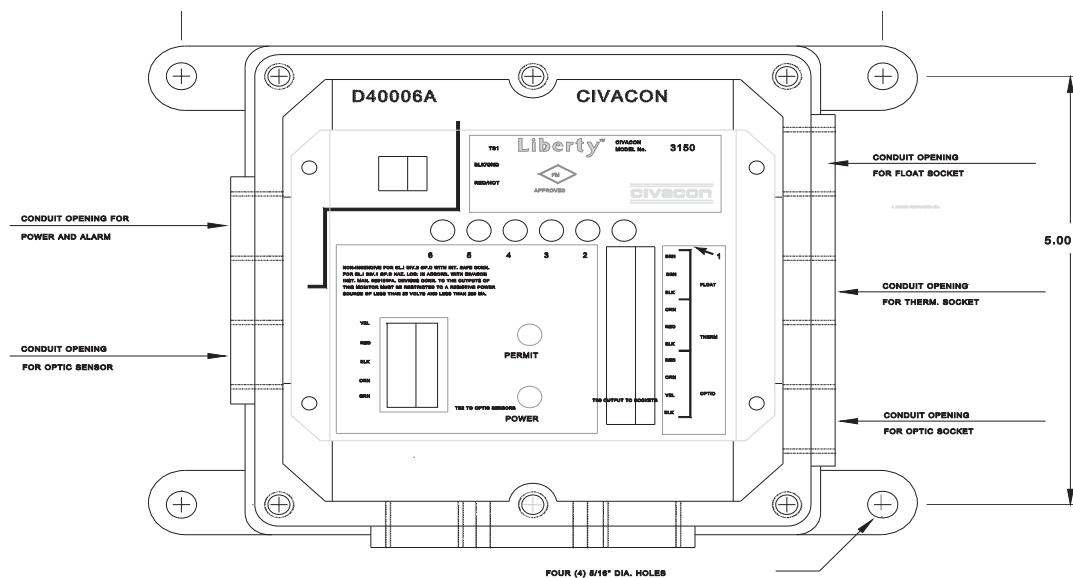
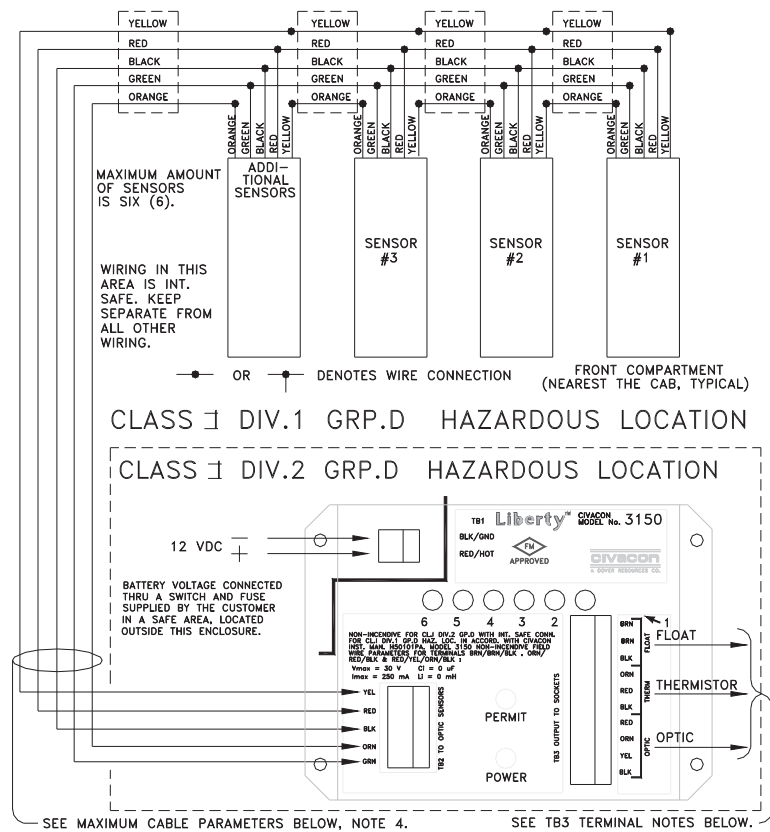
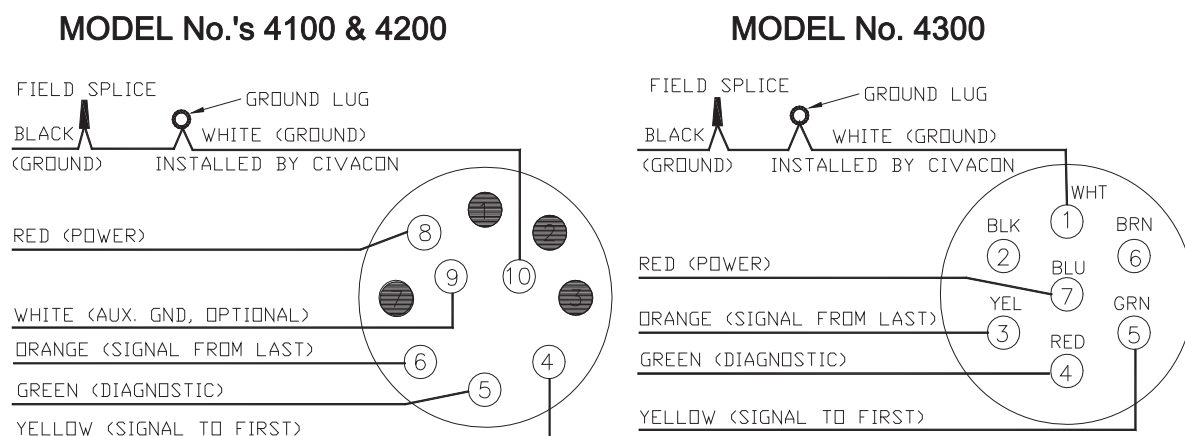

FIGURE 1 – MONITOR MOUNTING
FIGURE 2 - POWER AND SENSOR WIRING
FIGURE 3
The CIVACON Onboard Monitor has four (4) flanges with holes, at the base of its cast aluminum housing, used for mounting the enclosure. These are provided so that it may be securely bolted to a grounded metal portion of the trailer that will provide an excellent physical support to the monitor. These holes are 5/16 inch diameter. Refer to Figure 1 for dimensional mounting information. Mounting dimensions are given in inches.
To protect the electronics in the housing, keep the monitor lid on the enclosure until you are ready to wire the monitor. The housing provides seven (7) 1/2" NPT conduit holes (refer to Figure 1). These holes provide for easy wiring access to the desired locations of the monitor. The three (3) holes on the right side of the monitor are used for wiring to the sockets. The two (2) located on the left side of the monitor are used for wiring the 12 volt power and an optic sensor signal format to the monitor. The holes along the bottom are not used. Any holes that are not used should be properly sealed with pipe plugs, provided with the enclosure. Once the housing is installed, you are ready to remove the cover frame and window, and begin the wiring procedure.
All wiring entering the monitor must enter through the conduit openings shown in Figure 1. Use weathertight strain reliefs or conduit fittings to keep out external moisture. We strongly suggest the use of a high quality stranded and tinned copper wire with a minimum thickness of 20 gage for all electrical connections to the monitor. Trim about 3/8" of the insulation off the end of each wire that will be connected to the terminal strips of the monitor. Insert the trimmed wire into its appropriate slot on the terminal strip and tighten the screw on top of that slot. Due to the vibrations that can occur on a trailer, it is extremely important to double check all wiring connections for good mechanical integrity. The proper color code of the wires will save time and money on the installation and on any troubleshooting which may be required in the future. CIVACON Model 2100 cable (Ident code 97750) is a five (5) conductor color coded cable which is highly recommended for use with the installation of CIVACON overfill prevention equipment.
Do not apply power to the monitor without reading this manual and thoroughly checking all connections. Measure the trailer system voltage. The monitor is designed to operate from 11 to 16 Volts DC, negative ground systems, supplied by a battery. If your voltage measurement is not within this range, contact CIVACON before installing the monitor. Power from battery chargers or other pulsed power supplies may permanently damage the monitor. If the power wires pass through a Class I, Division 2, Group D area, the conduit and wire type must be suitable for this use. The power supply circuit should contain a switch and an inline fuse with a maximum current rating of 1/4 Amp. It is recommended that the power be switched off when not in use (i.e. when servicing the electrical system or when driving the vehicle). The wires from the power source should only enter the enclosure via the proper conduit opening, the upper left hand opening (refer to Figure 1).
The sensors must be wired according to Figure 2. The wires from the sensors should enter the enclosure via the proper conduit opening (refer to Figure 1). Any 5 wire sensor, which follows the five wire "OPTIC" signal format, may be used. CIVACON Instruction Sheet H50280PA may also be used as a reference in wiring the sensors. See Figure 2 for a complete sensor wiring diagram.
Conduit openings are provided so that each type of socket used may have its own conduit connection (refer to Figure 1). This convention is not required but will help in troubleshooting and tracing the system output if a problem should occur. Cross reference the CIVACON part number of the socket to its proper wiring diagram and connect accordingly (refer to Figures 3, 4, and 5). Please use the CIVACON Instruction Sheet H50200PA, which is packaged with each socket, for additional reference information on the sockets.
The power light is the YELLOW LED at the bottom of the monitor. When this light is on, it is indicating that power is being applied to the power terminals of the monitor (refer to Figure 2), and that the internal main fuse is intact.